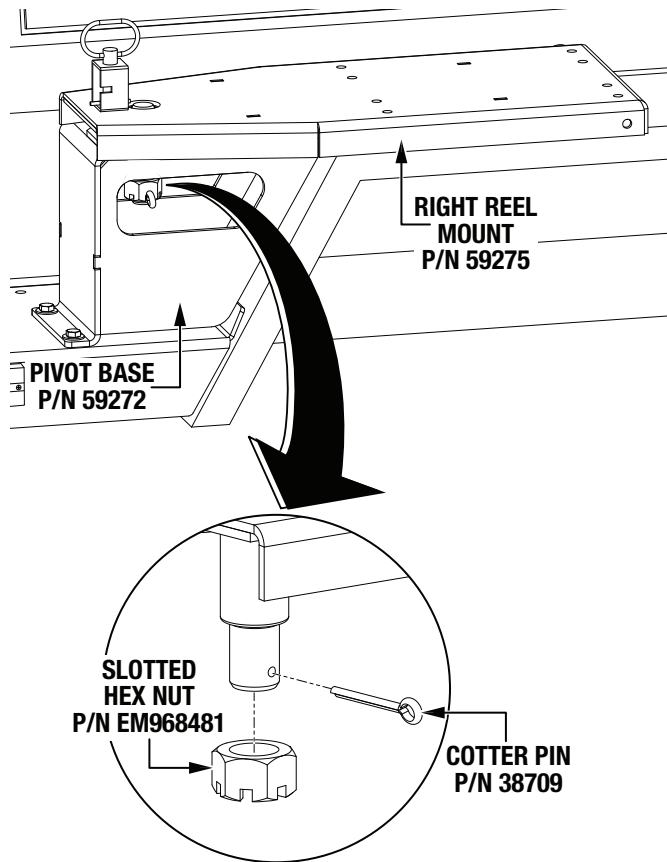

Figure 24. Secure Reel Mount to Pivot Base
- Secure the right reel mount (P/N 59275) to the pivot base (P/N 59272) with the slotted hex nut (P/N EM968481) and 3/16 × 2" cotter pin (P/N 38709) as shown in Figure 24. Bend the cotter pin tines to lock it in place.